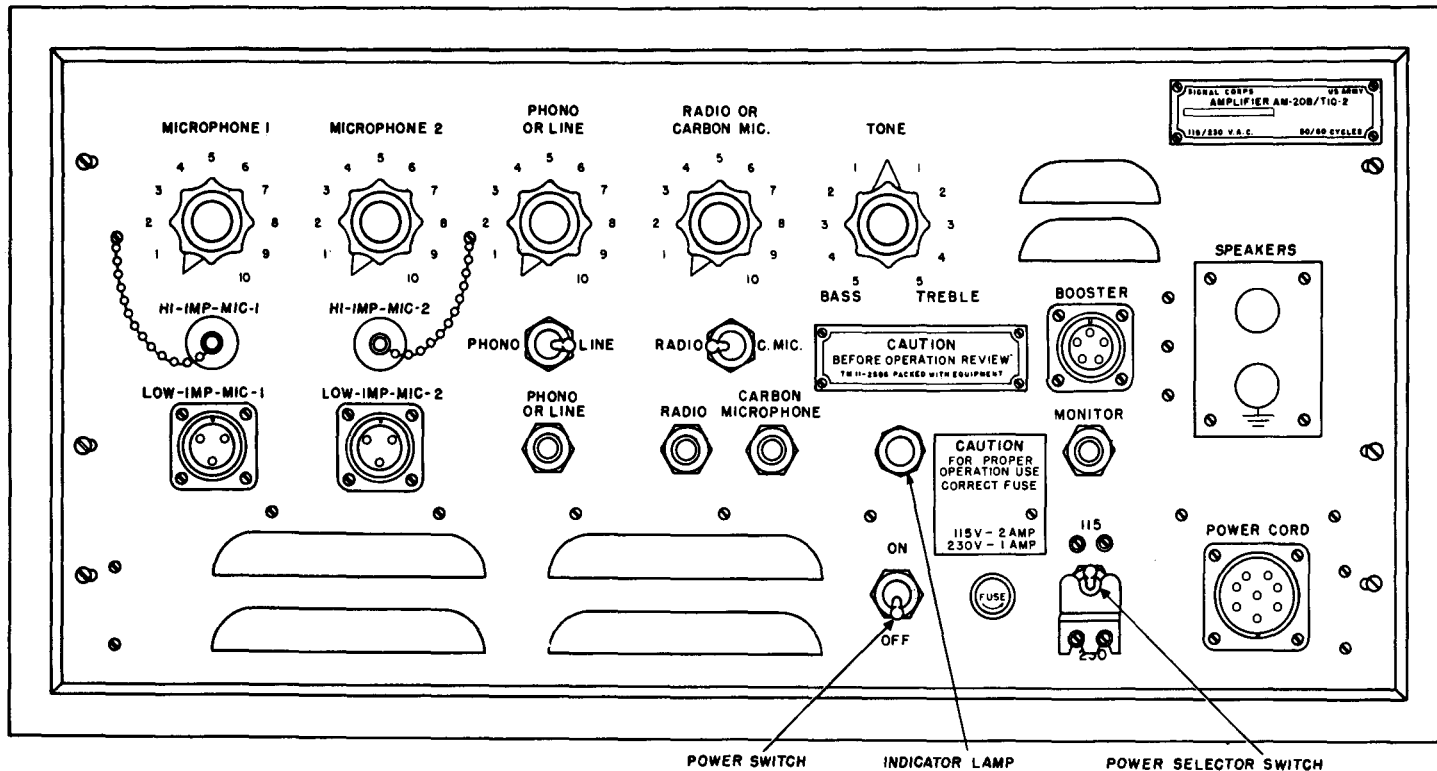

Figure 23. Amplifiers AM-20/TIQ-2, AM-20A/TIQ-2, and AM-20B/TIQ-2, control panel.
*a.* Start the amplifier by setting the power switch to the ON position. The indicator lamp (fig. 23) should light. Allow a few minutes for the tubes in the amplifier to warm up.
a. *General.* Use the four knobs marked MICROPHONE 1, MICROPHONE 2, PHONO or LINE, and RADIO OR CARBON MIC. (located at the top of the amplifier panel (figs. 23 and 24)) to make the sound coming from the speakers louder or softer. To make the sound louder, turn the knobs to the right. If the knobs are turned too far to the right, the sound will become a squeal; turn the knobs to the left until the squealing stops. To make the sound softer, turn the knobs to the left. The subparagraphs below describe the use of each knob.
- (1) When the PHONO-LINE switch is in the PHONO position and the cord that is plugged into the PHONO OR LINE jack comes from the turntable.
- (2) When the PHONO-LINE switch is in the LINE position and the cord that is plugged into the PHONO OR LINE jack comes from a special telephone line or when a booster amplifier or low impedance phonograph is being used.
Use the knob on the amplifier panel marked TONE (figs. 23 and 24) to make the voice or music sound deeper or higher. To make it sound deeper, turn the knob to the left in the direction of the position marked BASS. To make it sound higher, turn the knob to the right in the direction of the position marked TREBLE. There are five marks on each side. Turn the knob one mark at a time until the best tone is heard coming from the speakers.